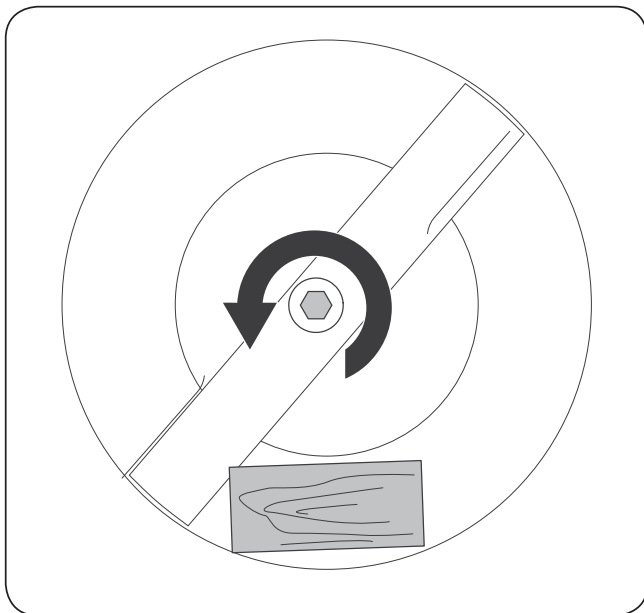

Figure 18
- Tip the machine onto its side with the air filter and carburetor facing up. Use a block of wood to hold the blade steady. (See **Figure 18**)